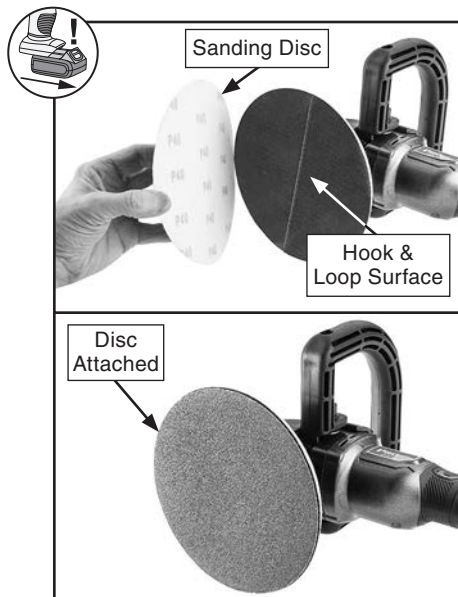

Figure 12. Attaching disc.
3. Press disc onto hook & loop surface, making sure edges align to avoid damaging workpiece surface and backing pad (see **Figure 12**).
4. To remove disc, peel away disc from edge (see **Figure 12**).